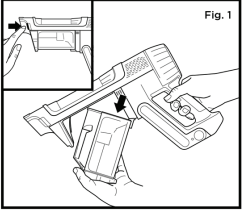

Fig. 1
- To remove the dust cup on your IP3000 hand vacuum, press the release button and slide the dust cup off the hand vac (Fig.1).